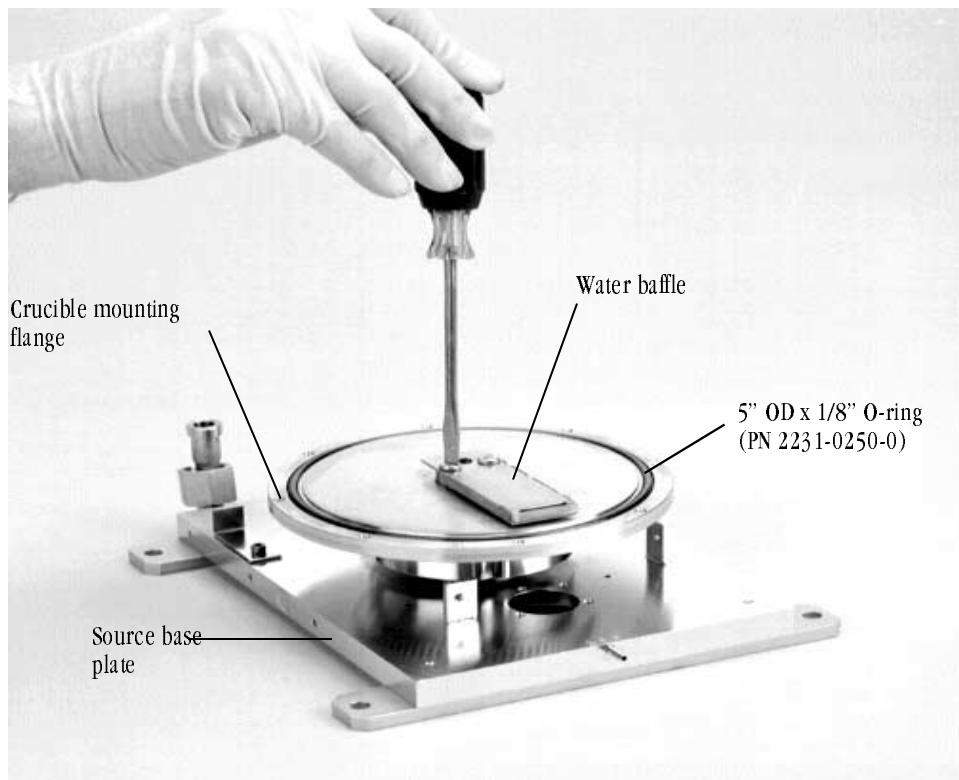

Figure 6-12. Removing the water baffle
Step 17: Remove the two 8-32 \times 1/4-in. screws that secure the water baffle to the pivot shaft and remove the water baffle (see Figure 6-12).
Step 10: Secure the water baffle to the top of the pivot shaft, using the pan-head screws provided (see Figure 6-12).